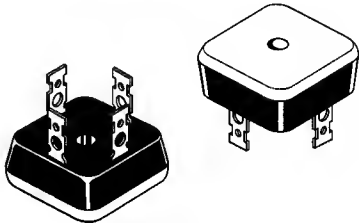

FIGURE 3.28 Integrated rectifier package.
Integrated-circuit (IC) bridge rectifiers, like the one illustrated in Figure 3.28, are also designed to be mounted onto a heat sink. There is a hole in the middle of the component to allow a mounting bolt to pass through. The bottom of the bridge may be aluminum, which is electrically isolated from all diode junctions and serves as an excellent thermal conductor. (IC bridge rectifiers are discussed further at the end of this section.)
The component case illustrated in Figure 3.28 contains an entire bridge rectifier. Typically, IC bridge rectifiers can handle average currents of 25 A (and higher) and surge currents in the hundreds of amperes. In these respects, IC bridge rectifiers are like power rectifiers. At the same time, they have high V_{RRM} and low I_R ratings, like many small-signal diodes.